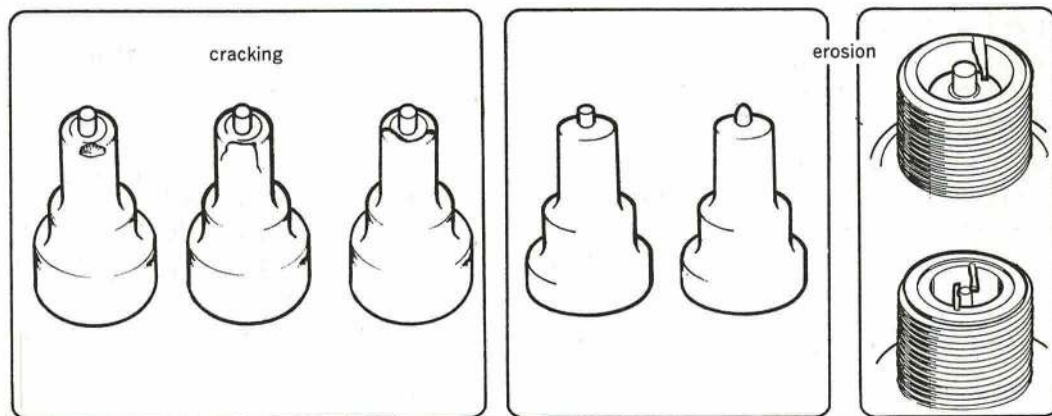

Fig 1.8.7 Cracking and erosion of plugs
31. After cleaning, an examination of the plugs should be made. Any which have the insulation cracked or any electrodes which are loose or are eroded outside the limits laid down for the cross-sectional area, or any of those with signs of the mica flaking, should be rejected. An example of cracking and erosion is illustrated at Fig 1.8.7.